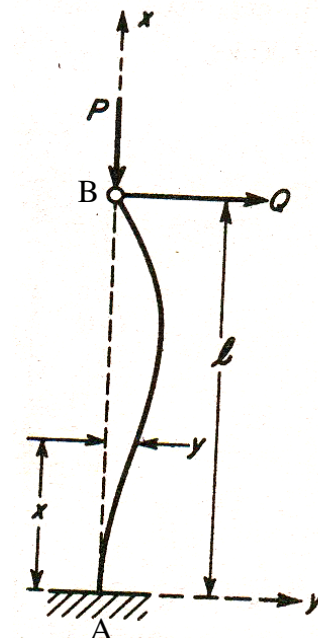

Fig. 6
6. A slender column of length l is built-in at its lower end A and laterally supported at its upper end B as shown in Fig. 6. Find the first (smallest) critical value of the compressive load P . The flexural rigidity of the column is EI .